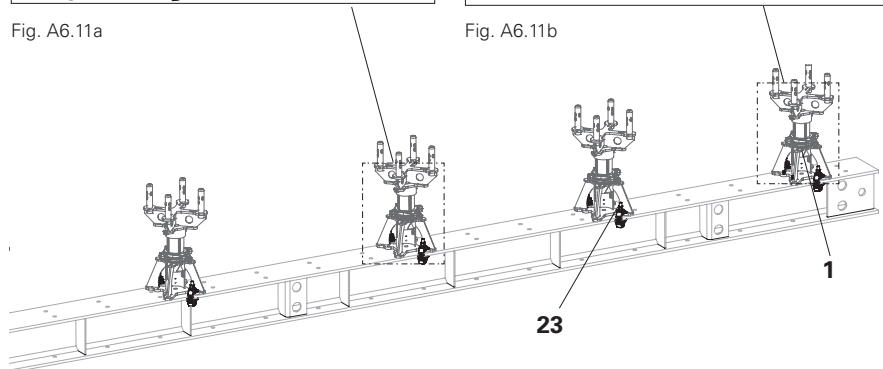

Fig. A6.11
1. Place the required number of Lowering jacks (**1**) on the Main Beam HDT (**20**). (Fig. A6.11)